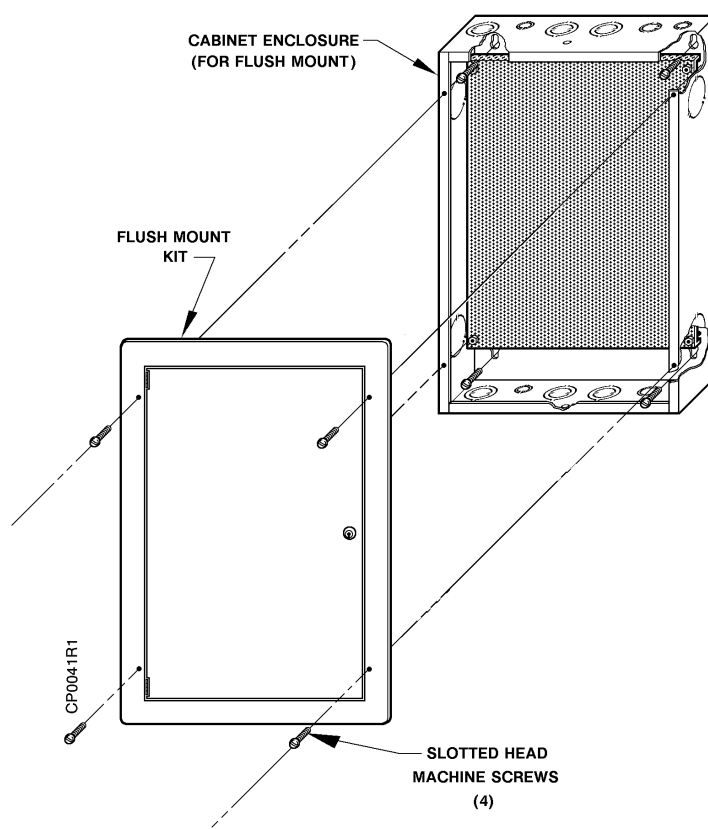

Figure 3. Flush Mount Cabinet Components.
2. Determine if the controls mounted in the door will clear the mounting plate when tubing or wires are attached. See Figure 3 and Table 5 for dimensions. Table 4 provides the approximate space requirements for controls frequently mounted in the door.